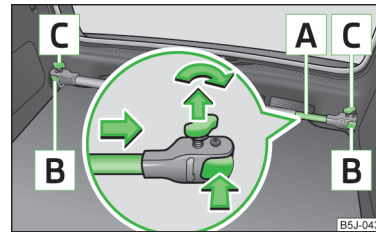

Fig. 72
- Undo the securing bolts C » Fig. 72 and remove a little to unlock the holders B.